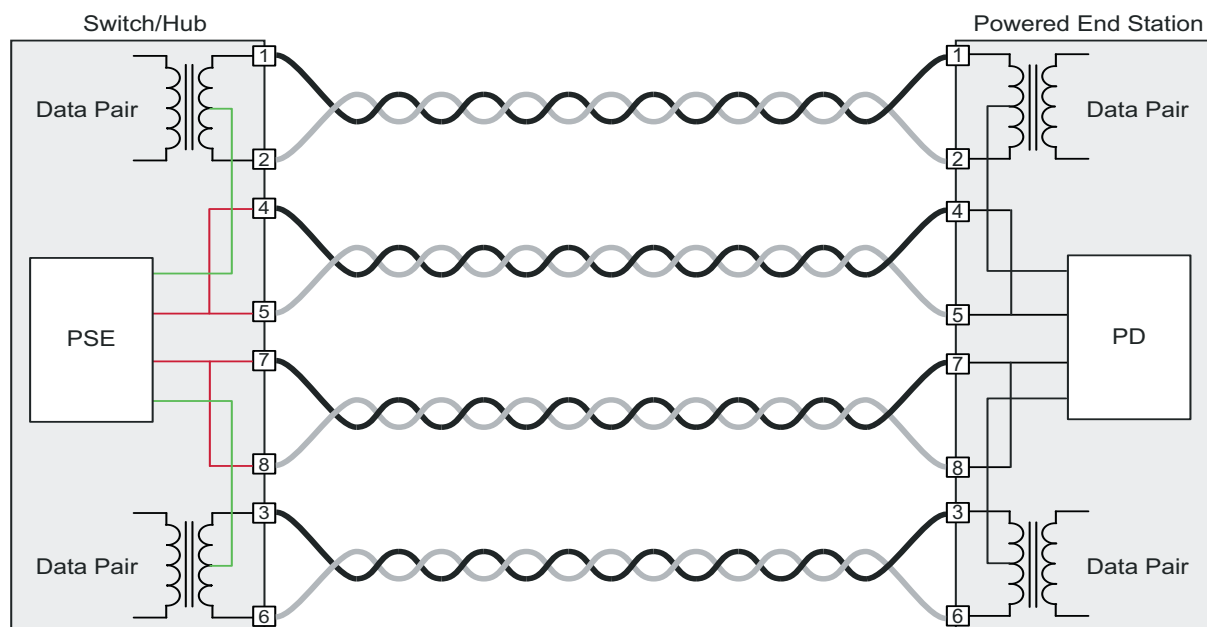

Figure 1: 10BASE-T/100BASE-TX Endspan Powered (Alternative A – Green; Alternative B – Red)
- Endspan PSE, supporting 10BASE-T/100BASE-TX networks only (Figure 1)